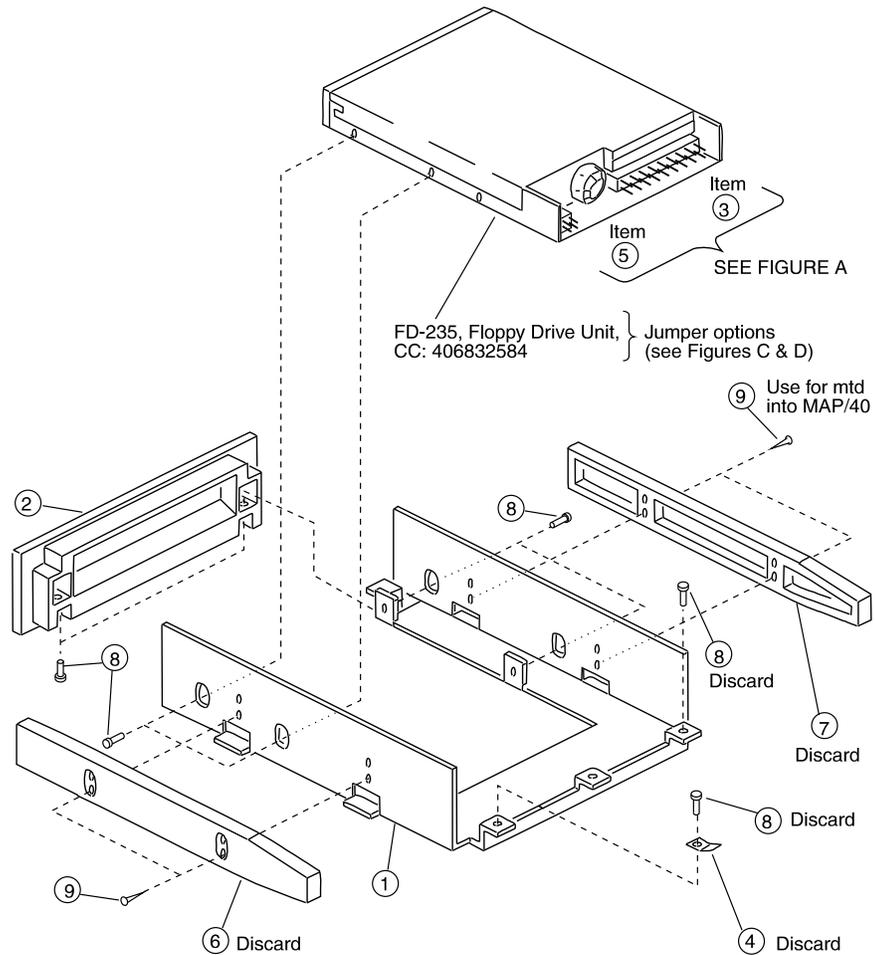

Figure 7-9. Floppy Disk Drive Assembly
10. Remove the four 3-millimeter screws that secure the drive unit to the 5.25-inch floppy disk drive hardware mounting kit. These screws are shown as item 8 in Figure 7-9.
11. Slide the drive unit back to clear the front bezel. The bezel is shown as item 2 in Figure 7-9.